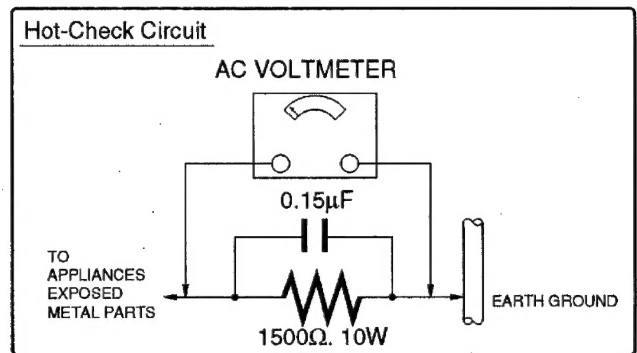

Figure. 1
LEAKAGE CURRENT HOT CHECK (See figure 1.)
2. Connect a 1.5k ohm, 10 watts resistor, in parallel with a 0.15 micro farad capacitor, between each exposed metallic part on the set and a good earth ground, as shown in figure 1.